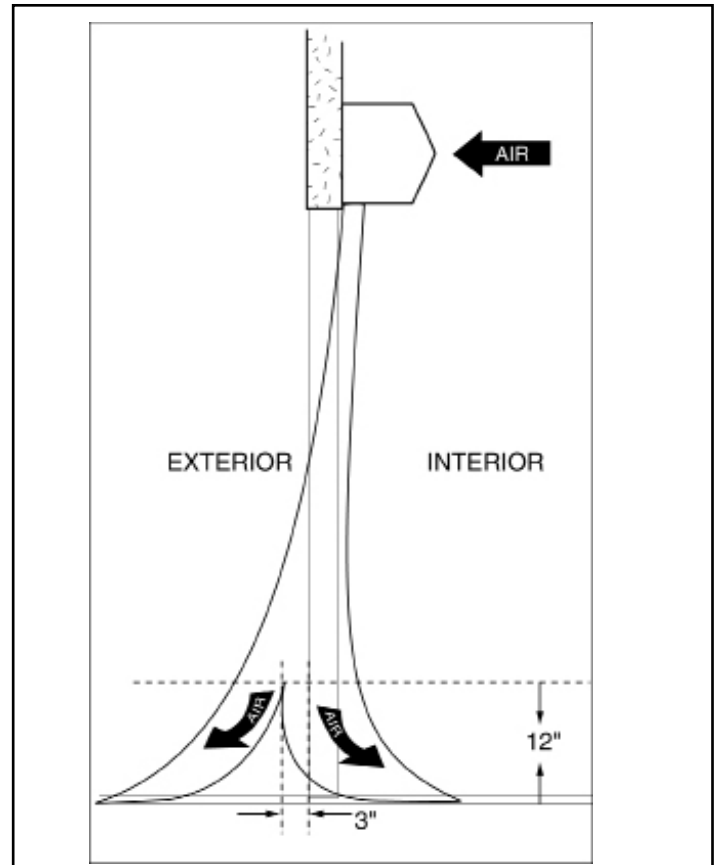

FIGURE 8 - Air Flow Adjustment
2. Find the air stream split location. Hold a handkerchief, by its corners, approximately 12" above the floor. Gently move the handkerchief back and forth in the doorway. Make sure the air is being directed to both the inside and the outside. The split location is indicated where the handkerchief is vertical with minimal or no fluttering. See FIGURE 8.